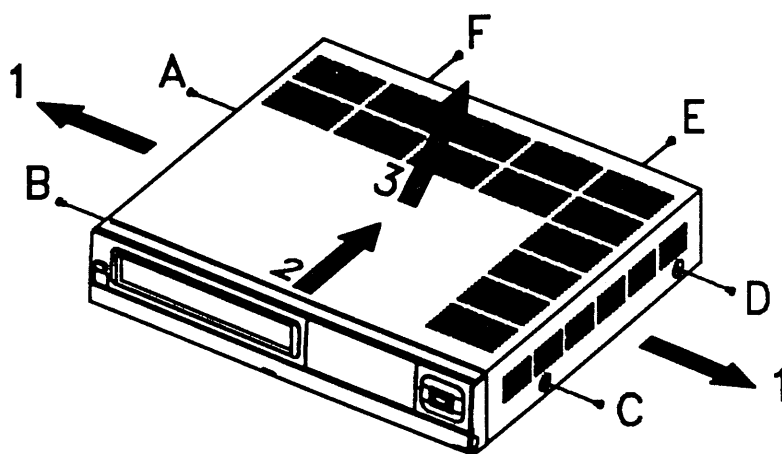

Fig. 1
- Unscrew the screws A, B, C, D, E and F (see fig. 1).